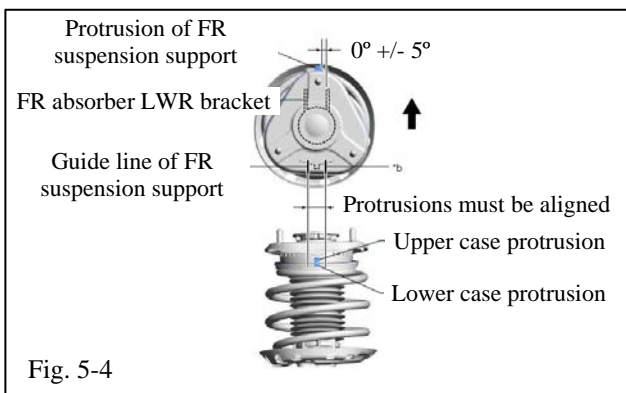

Fig. 5-4
- (d) Align the protrusion of the front suspension support sub-assembly with the front shock absorber lower bracket and align the protrusions of the upper case and lower case of the strut mounting bearings (Fig. 5-4).